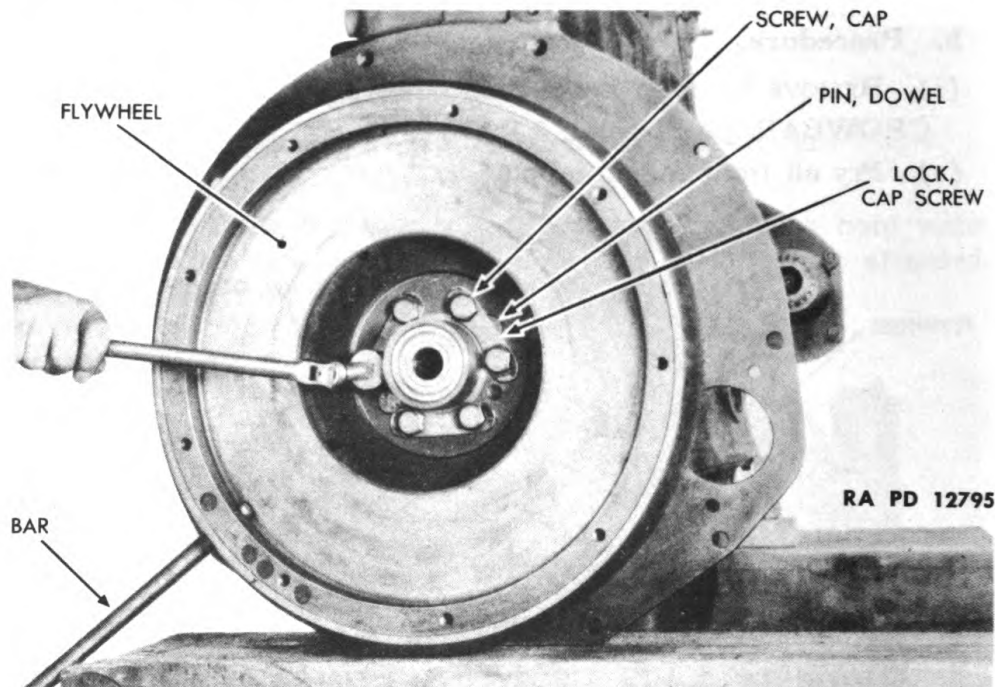

Figure 30—Engine Flywheel Removal
57. ENGINE FLYWHEEL REMOVAL (fig. 30).